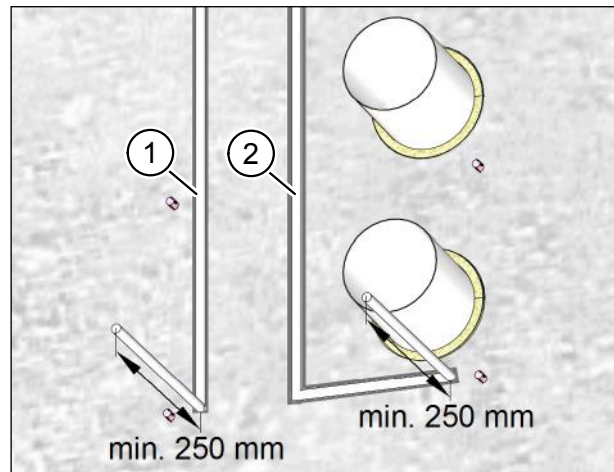

Fig. 17: Running the connecting cables
- ▶ Run the mains cable (item 1 in Fig. 17) and the control cable, if required (item 2 in Fig. 17). The cables should extend roughly 250 mm beyond the wall.